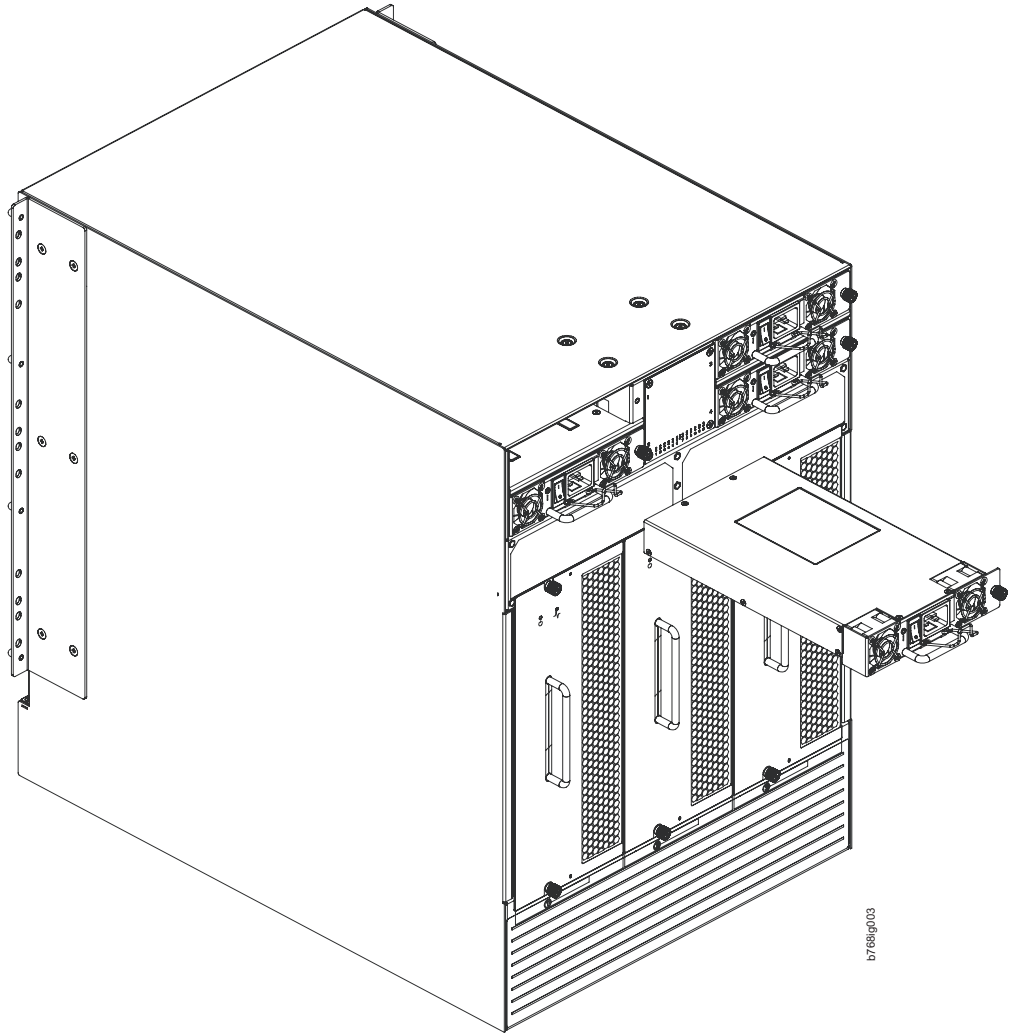

Figure 37. Removing and installing a power supply
5. Grasp the handle and pull, sliding the power supply from the chassis, supporting the power supply from beneath as you remove it. (see Figure 37 on page 90).